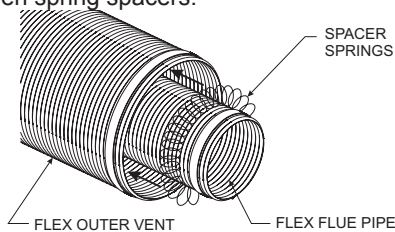
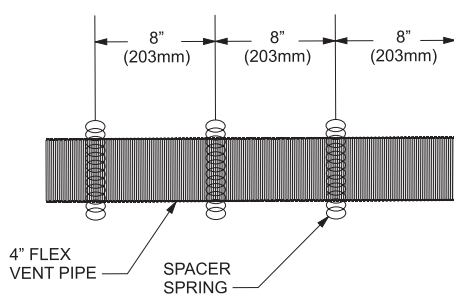

Figure 59
Figure 60
2. Check to see that the vent spacer springs are located around the flue vent at 8" and 12" intervals along its length. See Figure 59. If not, stretch the spacer springs to about 15" long and wrap them around the flue, then interlock the ends of each spring about 2". See Figure 60. Maintain equal distance between spring spacers.